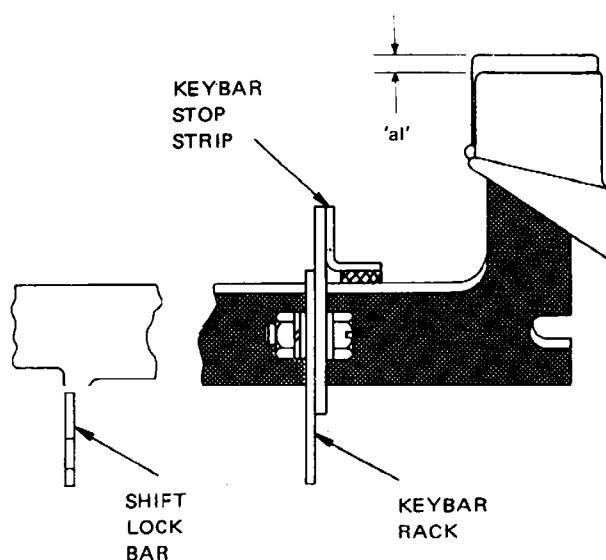

Fig. 4.41 KEYBAR STOP STRIP
- 44.1 Depress the LETTERS pad and check that each locked (figures) key can be depressed, before being stopped by the shift lock bar, by 0.010–0.060 inch (dimension 'al' of Fig. 4.41).